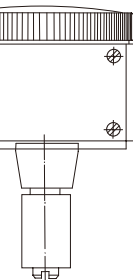

Fig.2B
- Use a wrench to tighten the clamp on the dovetail clip, thus completing the installation of the dovetail clip on the dial test indicator (Fig. 2B). Suggestion: Clamp the dial test indicator as close as possible to the test point.